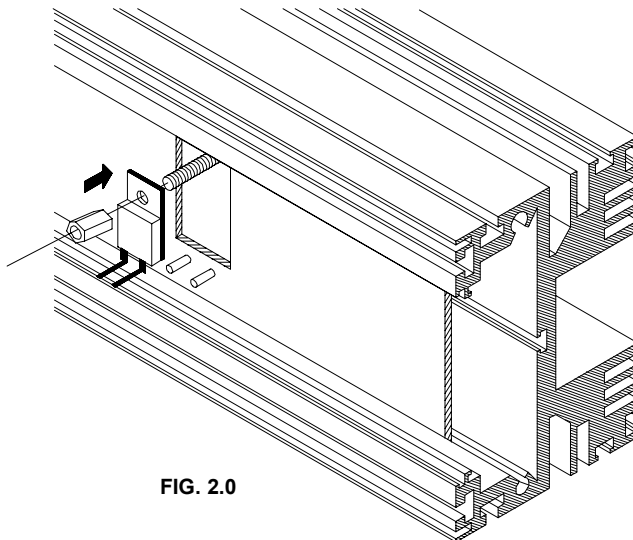

FIG. 2.0
**Note :** If the optional thermal protection is used, a hexagonal bolt should be slit into the mounting slot, and into the hole in the P.C.B. Then the THERMIC may be mounted on the heat sink and its terminals may be connected to the positions TS (see Fig. 2.0).